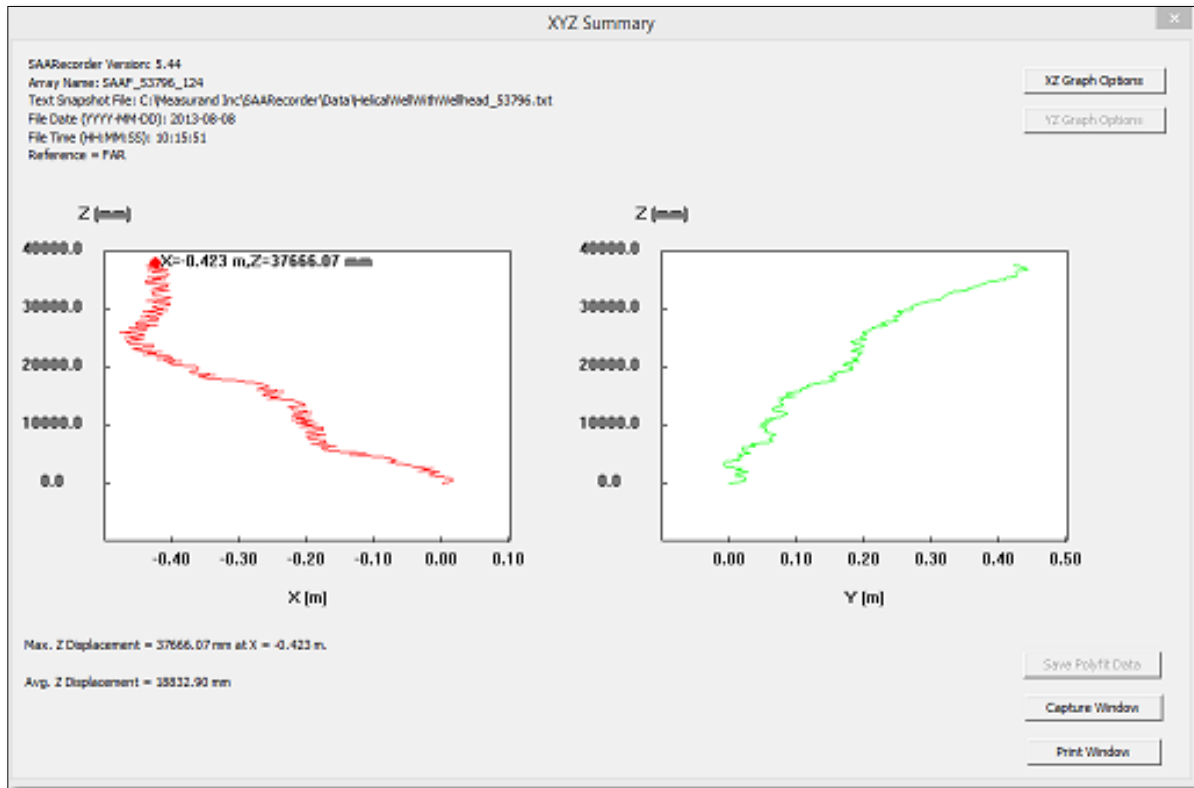

Figure 6.89: Snapshot view of SAA data.
2. The window shown in **Figure 6.89** will open.